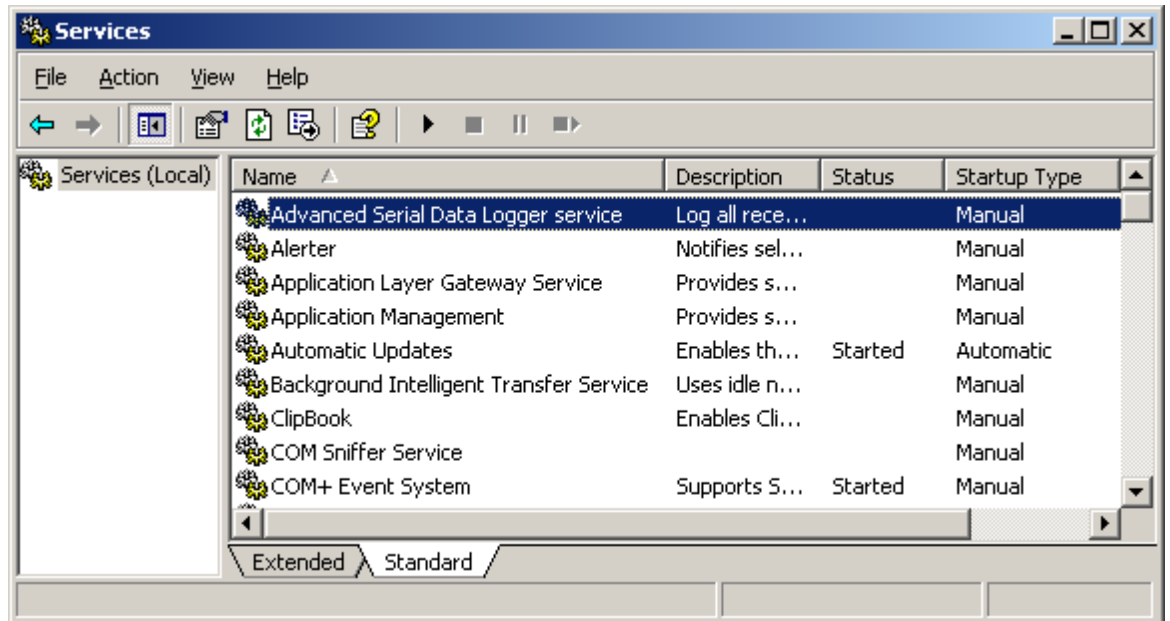

Fig.22 Manual service run (in Windows 2000).
2. **Manual** - you can start the service application in the "Services" window in the Control panel (fig.22);
After you installed the service mode of the program, restart a computer or run the service manually from the "Services" window in the Control panel (fig.22)